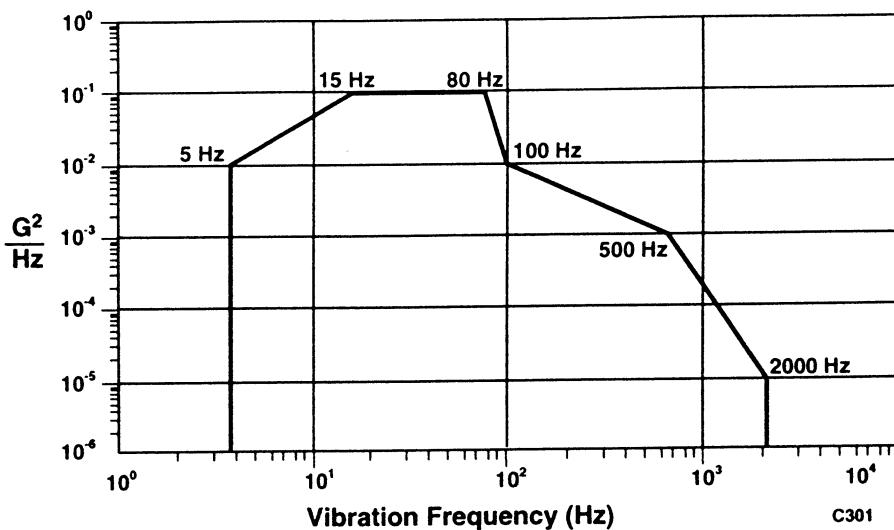

Figure 5. SAE Composite Curve (Random Noise)
**Vibration.** Full Performance, see the composite SAE curve in Figure 5. Survival, 18G peak, 5 msec duration.